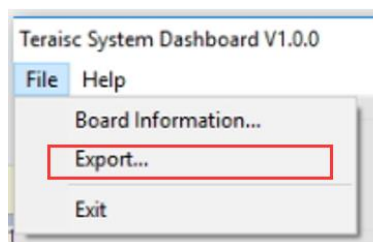
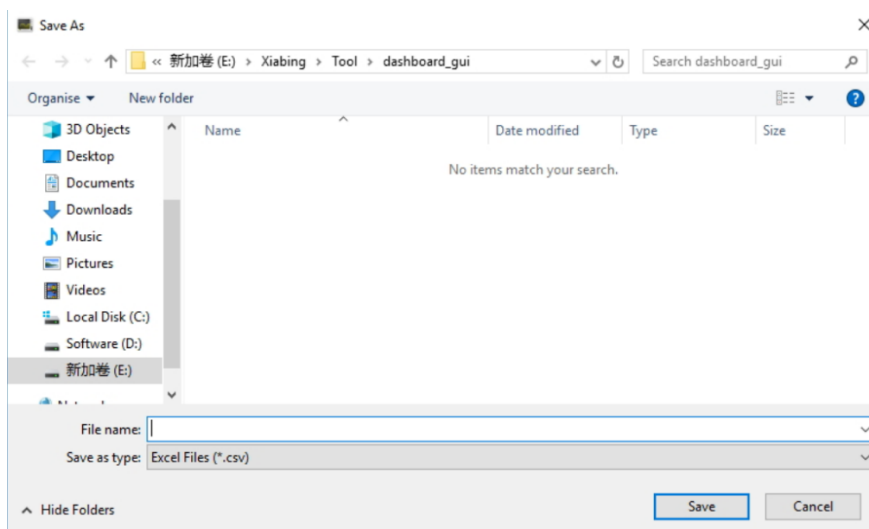

Figure 8-25 Export the log file
Figure 8-26 Export the log file in .csv format
- **Log File:** On the upper left of the Dashboard GUI program window, click the Export in the File page to save the board temperature, fan speed and voltage data in .csv format document, as shown in **Figure 8-25** and **Figure 8-26**.